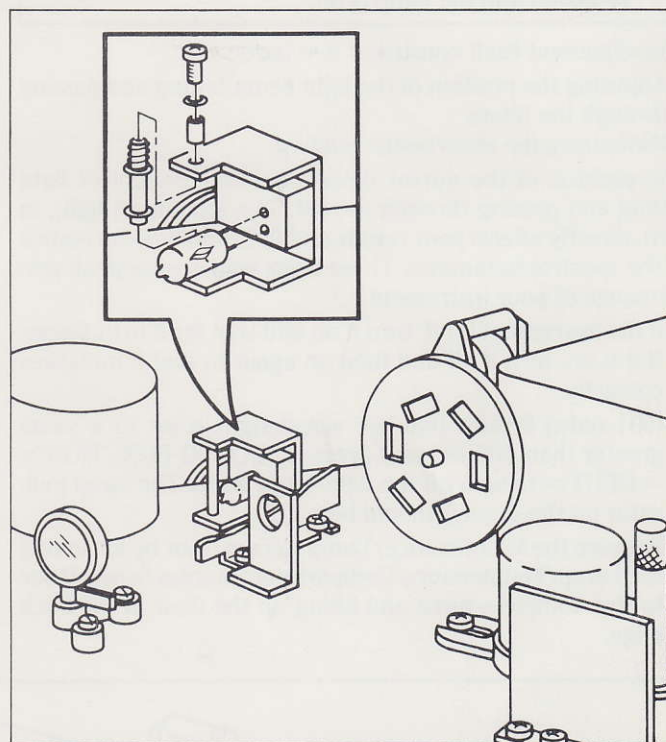

Figure 6-2. Locating the Socket for the Tungsten-Halogen Lamp.
- f. Carefully align the pins on the new lamp with the socket (Figure 6-2).